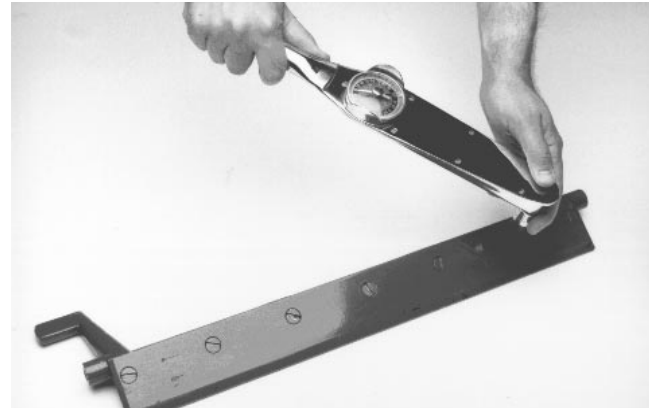

Figure 26
4. Install new bedknife with the proper bedknife screws (57-4910). Bedknife screws must bottom out on the bedknife, not the bedbar. Tighten the screws to a torque of 200 in-lb, working from the center toward each end of the bedbar (Fig. 26).